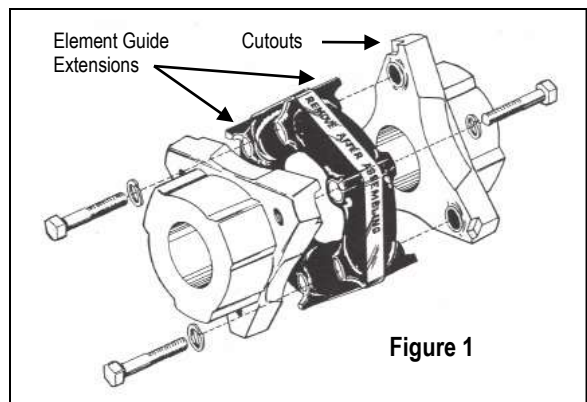

Figure 1
5. Mount the rubber element on one of the hubs with the element guide extensions resting in the cutouts found on the outside edges of the hub flange (see figure 1). Insert the supplied bolts with a lock washer through the element and start threading the bolts into the hub. Only tighten finger tight at this time. It will help when tightening these bolts to have a small amount of non hydrocarbon based lubricant, such as petroleum jelly, under the head to serve as lubrication when tightening. This will assist in preventing the metal inserts in the rubber element from twisting.
7. With the equipment secure in the desired position, ensure the rubber element guide extensions are located in the cutout locations in the opposing hub (see figure 1). Insert the remaining bolts as instructed in Step 4 and tighten finger tight.